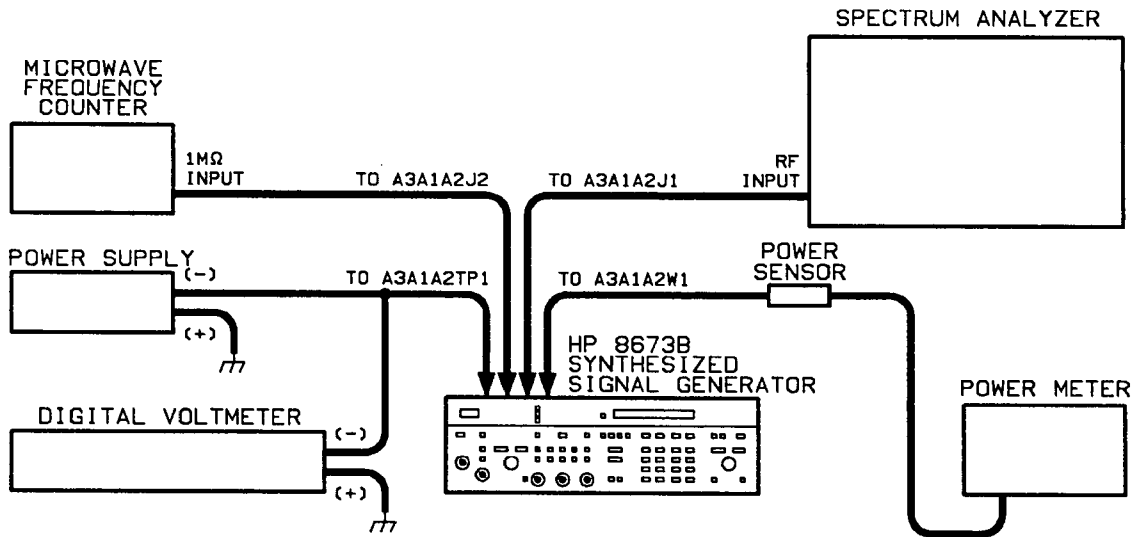

Figure 5-6. Reference Loop (VCXO) Adjustment Test Setup
1. Connect the frequency counter to A3A1A2J2 in place of the termination and connect the spectrum analyzer to A3A1A2J1 in place of the gray-orange-white cable, as shown in figure 5-6.